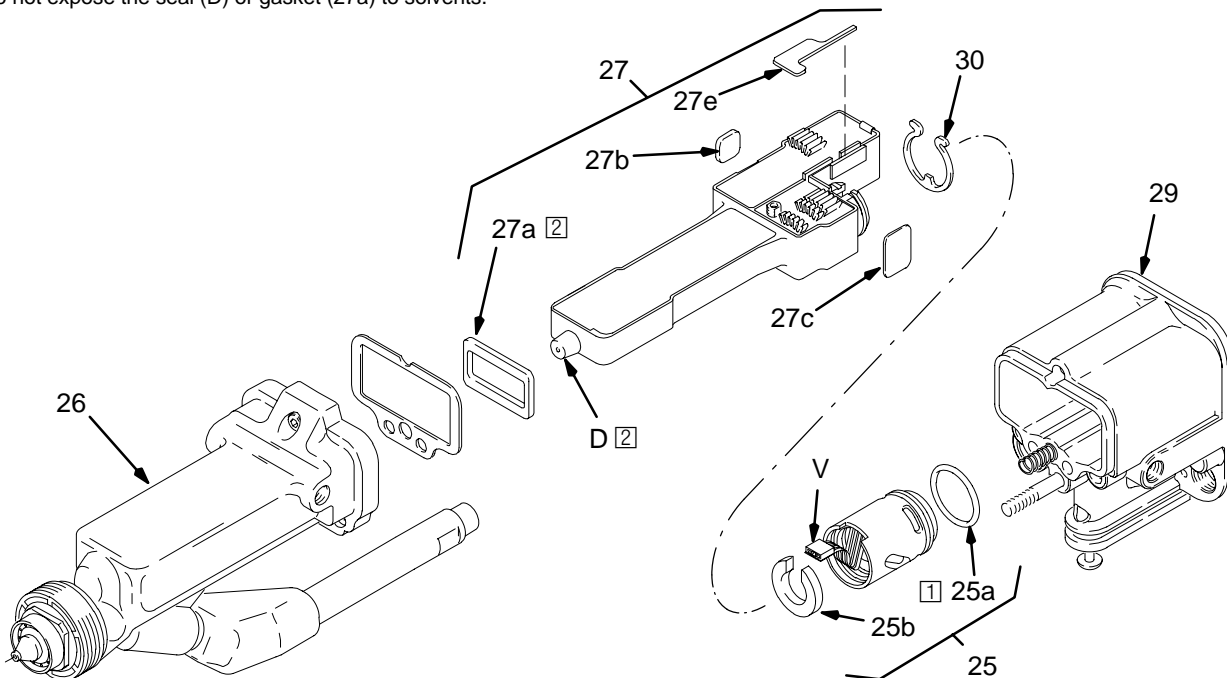

Fig. 38
- Do not expose the seal (D) or gasket (27a) to solvents as it will damage the parts.
3. Grasp the power supply (27) with your hand. With a gentle side-to-side motion, being careful not to damage the power supply, pull the power supply free from the gun body (29), then pull it straight out. See Fig. 38.
5. Before installing the power supply, inspect the seal (D) for any damage or swelling. Replace the seal if necessary. Make sure the gaskets and pads (27a–27f) are in place.
6. Lubricate the o-ring (25a), and install the power supply (27) in the gun body (29).
- 2 Do not expose the seal (D) or gasket (27a) to solvents.
4. Squeeze the two ends of the retaining ring (30) together, and carefully pull the alternator (25) away from the power supply (27) until the wire connector (V) disengages. See Fig. 38, page 42.
5. Use an ohmmeter to test the turbine alternator coil. Measure the resistance between the two outer terminals of the 3-wire connector (V). Resistance should be 3 to 5 ohms. If the reading varies from this value, replace the alternator.
6. Measure the resistance between each outer terminal of the 3-wire connector (V) and the alternator (25) housing. The resistance should be infinite. If the resistance is not infinite, replace the alternator.
7. Connect the 3-wire connector to the 3 prongs in the power supply. Push the alternator (25) onto the power supply (27) until the retaining ring (30) engages with the alternator.